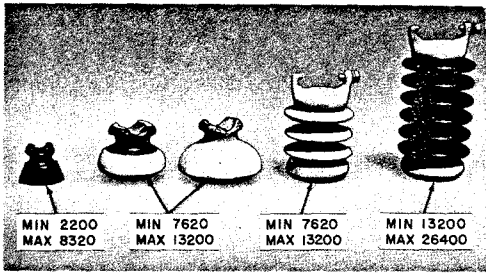

Fig. 1—Examples of Voltage Range or Power Company Insulators
3.07 A rescuer can estimate the voltage of the live wire by observing the size and type of insulator, voltage markings on a transformer, position of supply conductors on a pole, etc (see Fig. 1, 2, and 3).